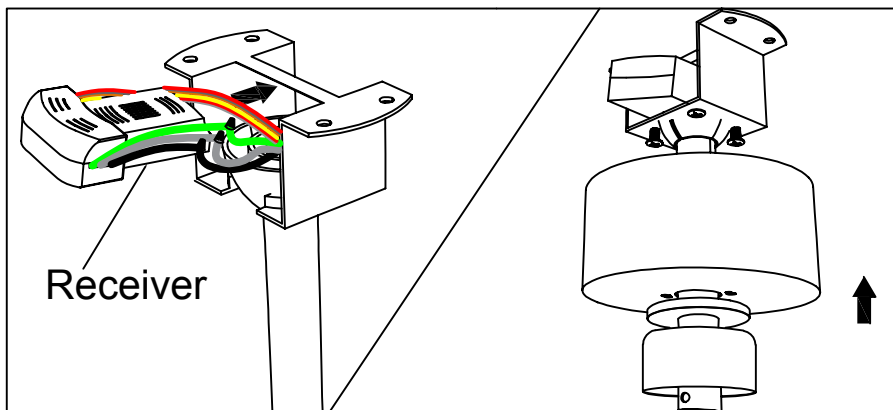

Figure 4.1
- Position the receiver into the mounting bracket as shown direction. When installing the canopy, ensure the antenna is not pressed against by the canopy. Ensure to connect all ground wires accordingly. (Figure 4.1)